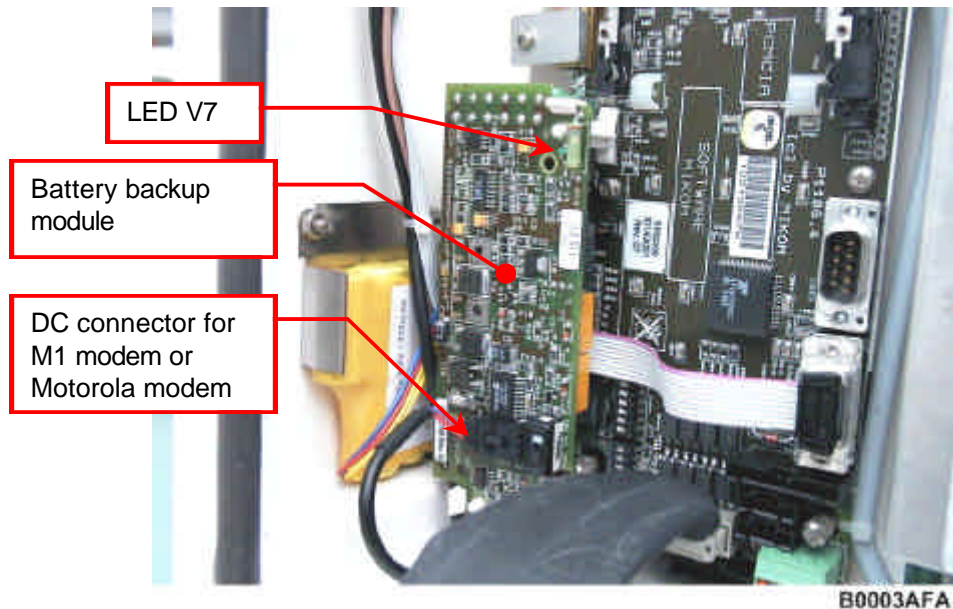

figure 4-5 Battery backup module
1. In case a battery backup module is installed, connect the DC connector to the battery backup module (see figure 4-5 Battery backup module).